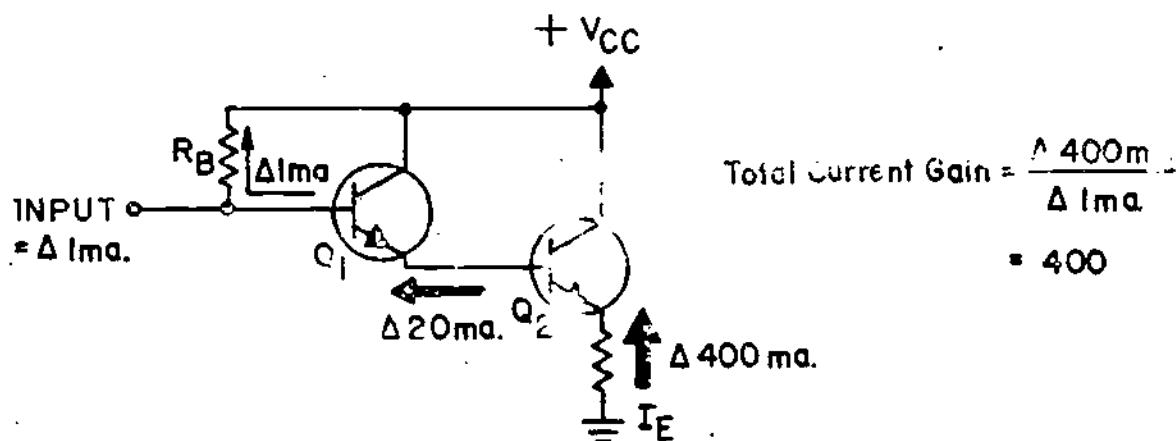

FIGURE 23
- (31.) The schematic in Figure 23 is that of a Darlington amplifier. This type of amplifier has several distinct advantages. The main advantages of the Darlington amplifier circuit are the high input impedance and high current gain. This circuit is found in many regulated power supplies.
Given the circuit shown in Figure 23, what is the output current change of Q2 assuming an input current change of 1 milliampere and transistor gains of 10.